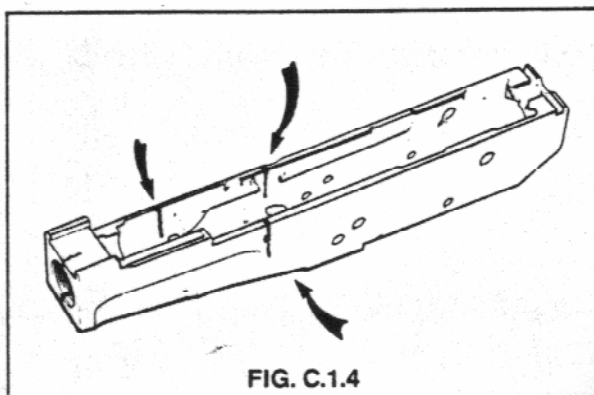

FIG. C.1.4
6. Ensure that receiver has no signs of cracks on guide rails especially above ejector, above and below barrel orifice, and in front of bolt turner on RH side of receiver. See Fig. C.1-4.